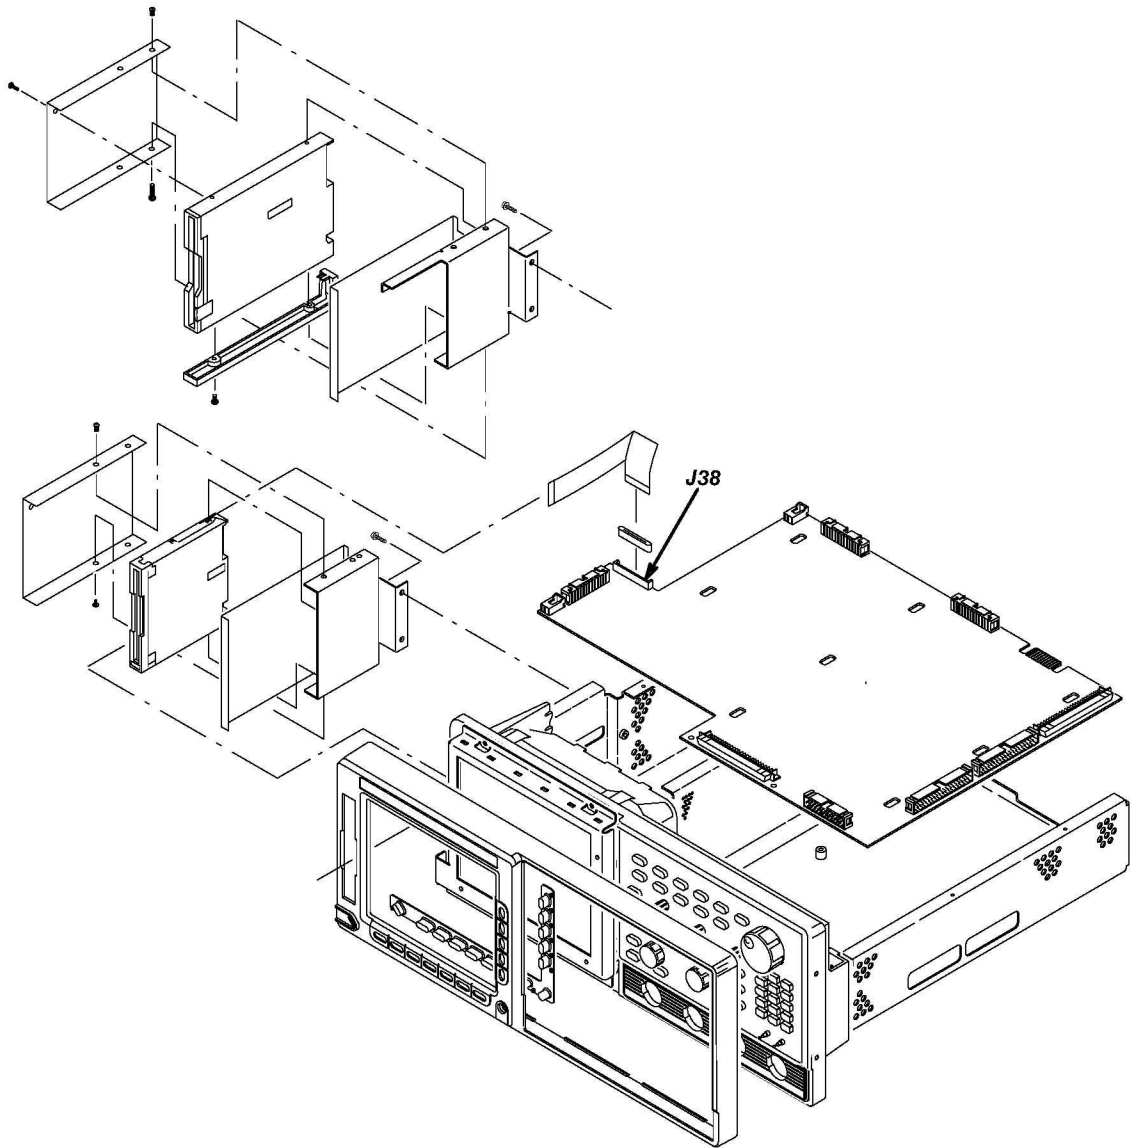

Figure 6-22: Floppy Disk Removal
3. *Remove the Floppy Disk:* Use Figure 6-22 as a guide.